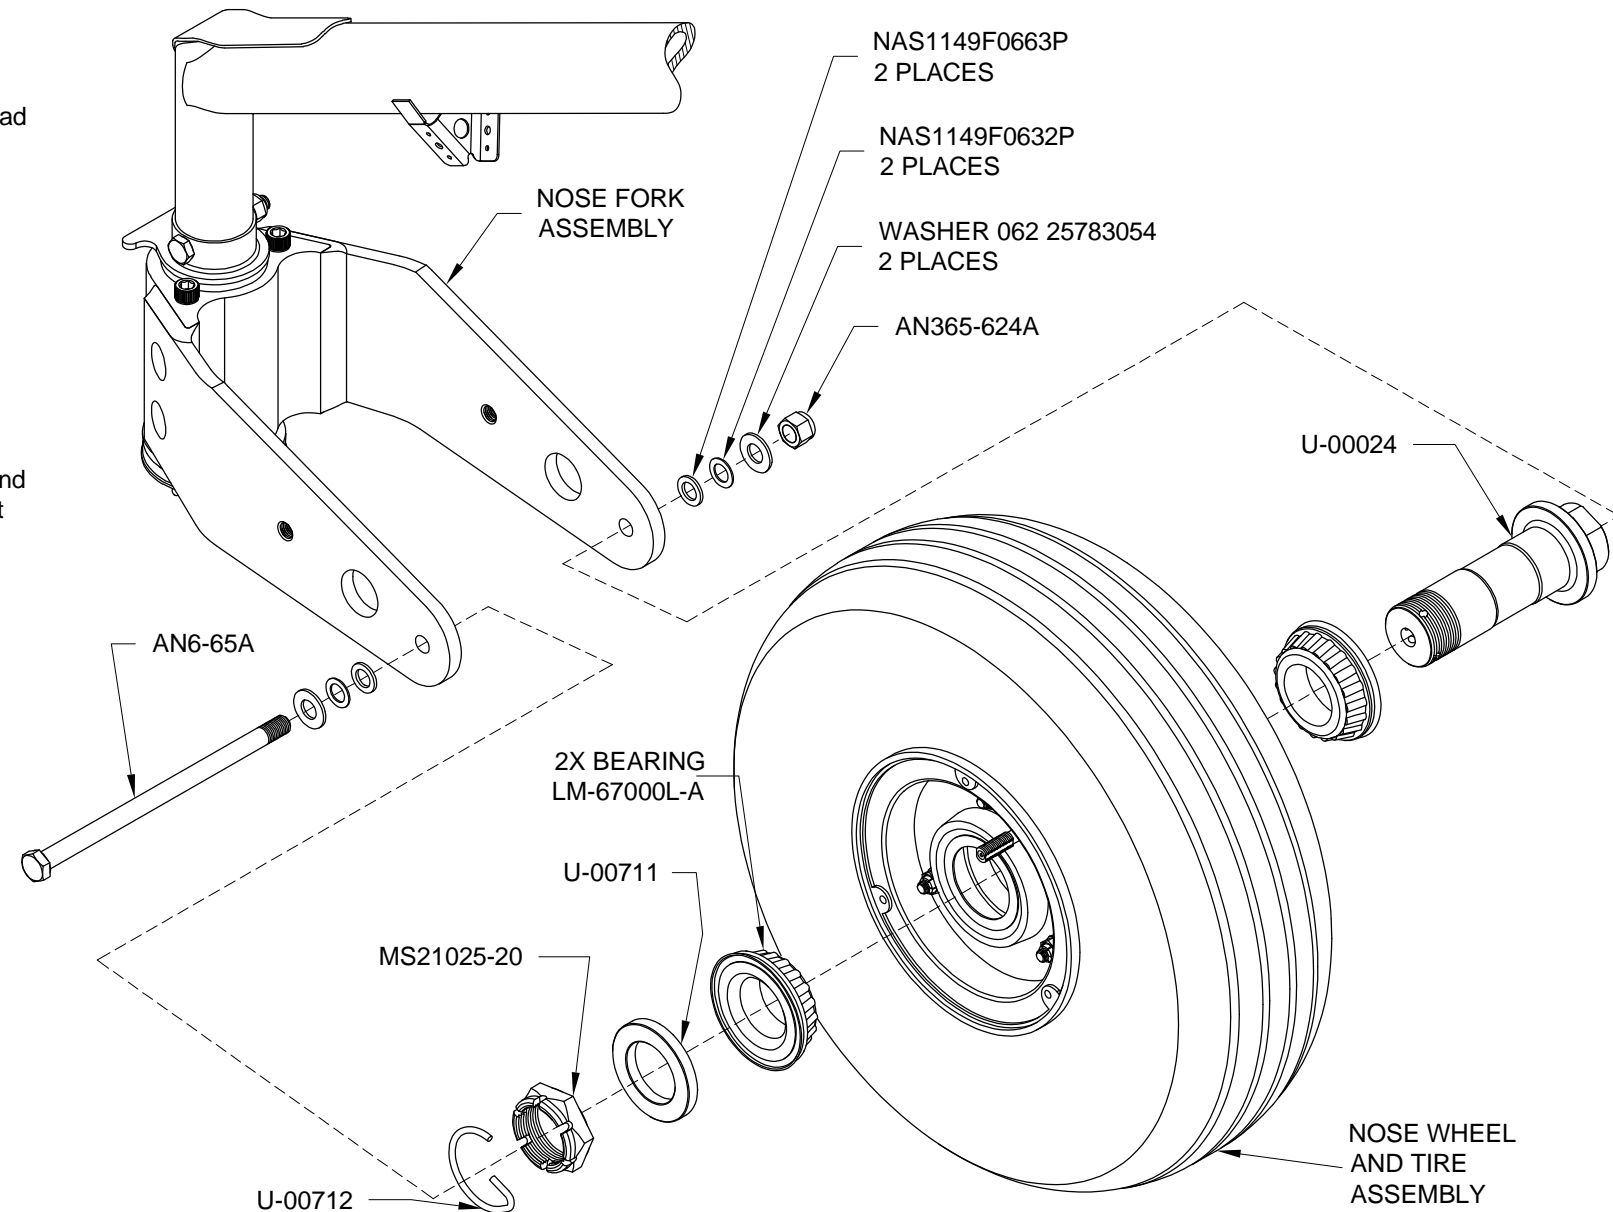

FIGURE 1: INSTALLING THE NOSE WHEEL AND TIRE ASSEMBLY
Step 6: Bolt the Nose Wheel and Tire Assembly, and the axle to the Nose Fork Assembly using the hardware called-out in Figure 1.